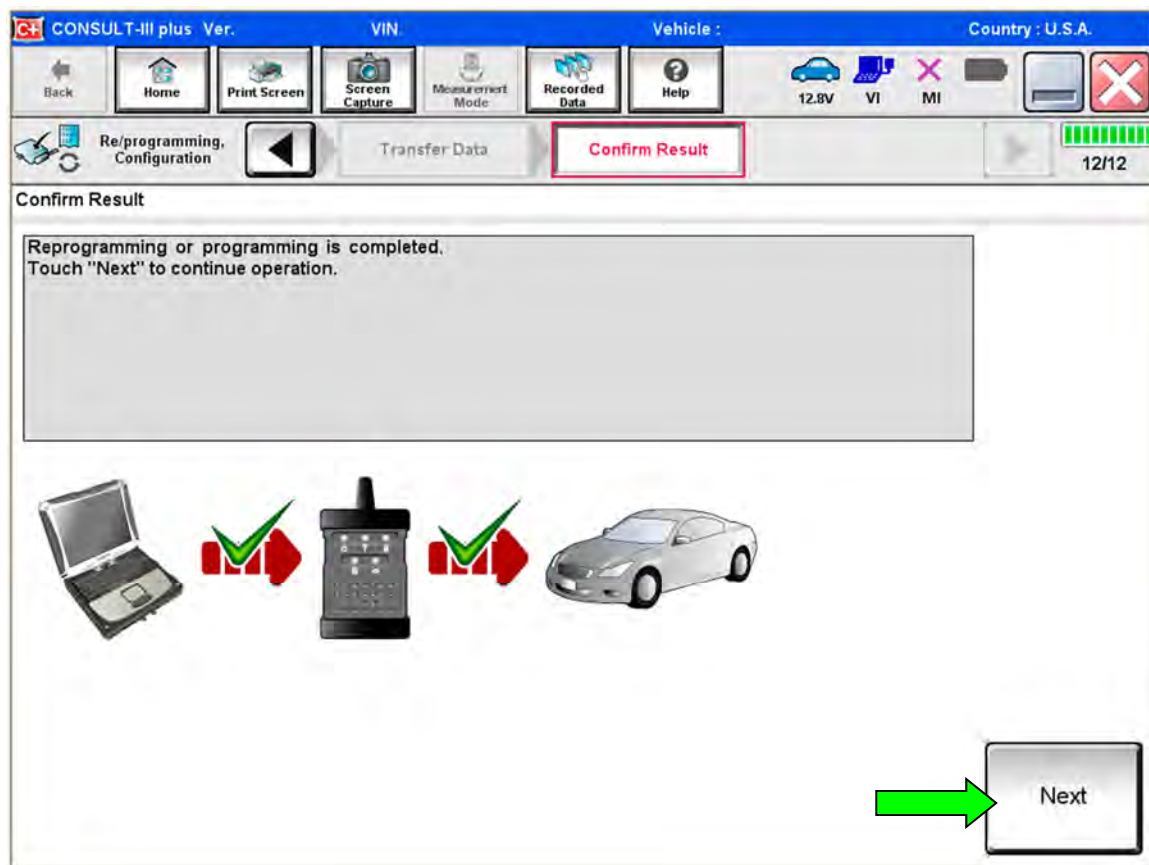

Figure 181
147. When the screen in Figure 181 displays, reprogramming is complete.
**HINT:** If the screen in Figure 181 does not display (indicating that reprogramming did not complete), refer to the information on the next page.